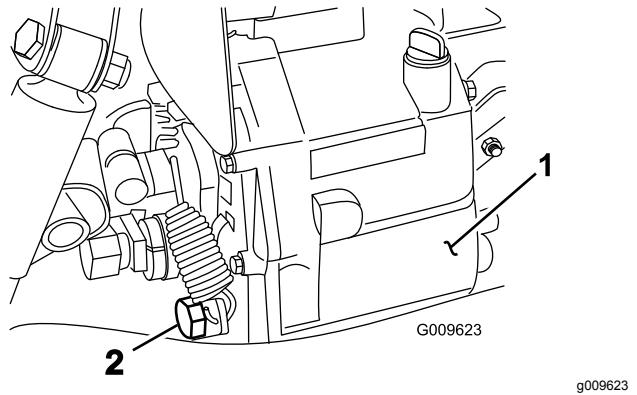

Figure 62
2. Remove the drain plug from the side of the reservoir, and let the hydraulic fluid flow into a drain pan (Figure 62).